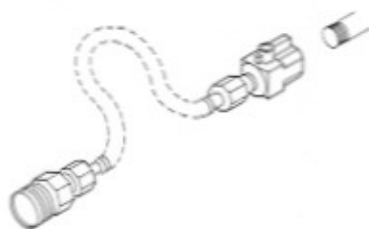

Figure 19
Step 1. Attach a 3/8" flex connector (18" length) with a 1/2" shut off valve and a 3/8" adapter to the 1/2" gas supply. Using a wrench and pipe joint compound, tighten securely (Figure 19).